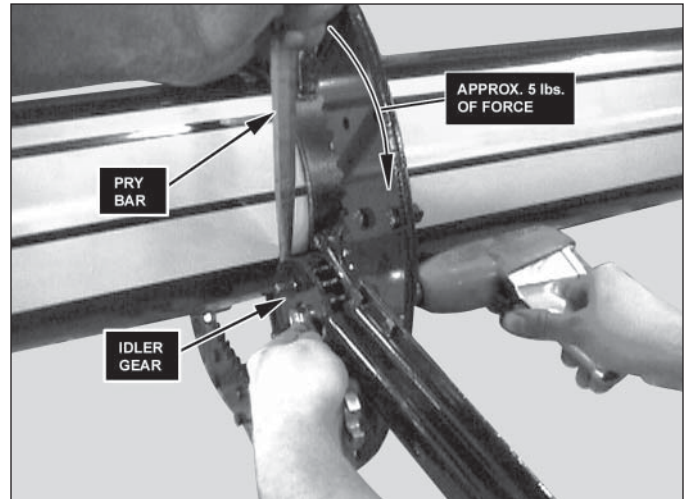

Figure 26, Tighten center lock nuts
2. Use a small pry bar between the outside wall of the manifold tubing and the idler gears with approx. 5 lbs. of force (Figure 26)